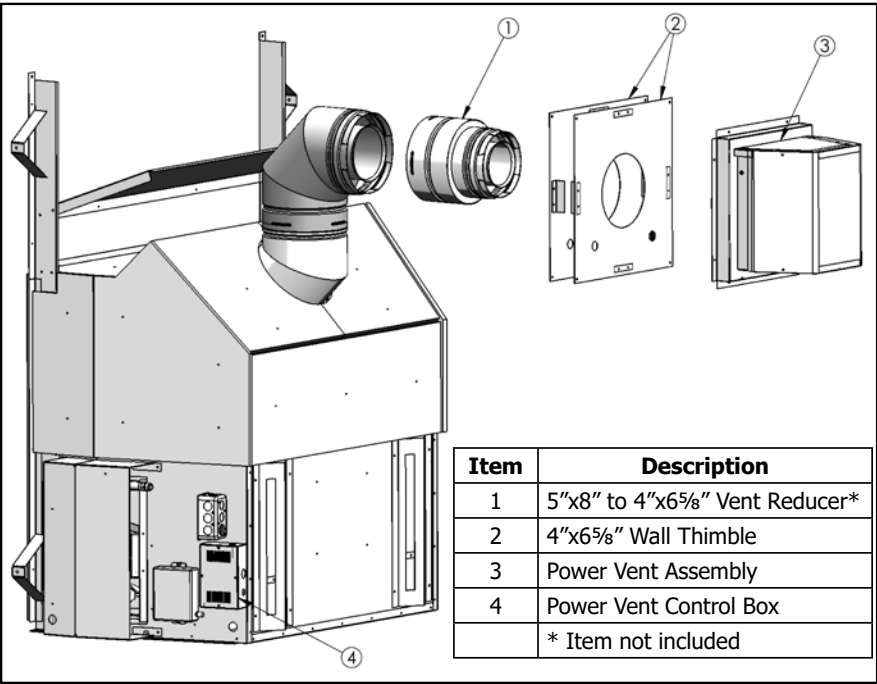

Figure 1: Power Vent Kit's Parts Diagram.
2. Reduce the venting size from 5" x 8" to 4" x 6-5/8" with a vent reducer, see Figure 1.